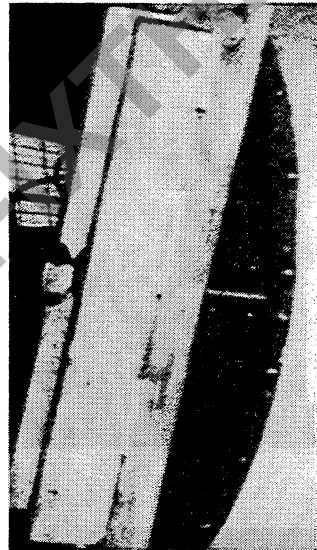

Figure 2:
3. Install the 58-006 bridge to the hub and install the forcing screw as shown with one nut on each side of the bridge plate, tighten these nuts securely (Fig. 2).